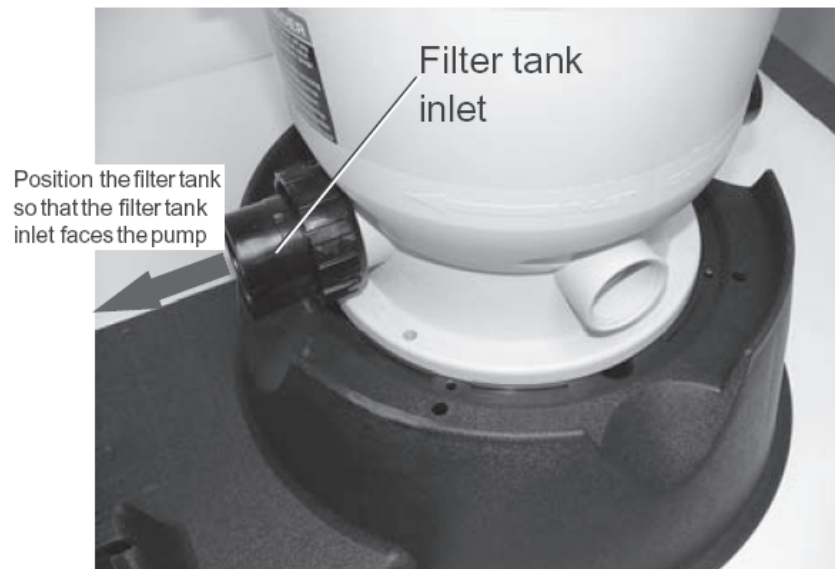

Figure 2.
- E. Position the filter tank foot so that the filter tank inlet faces the pump end of the system base. See Figure 2.